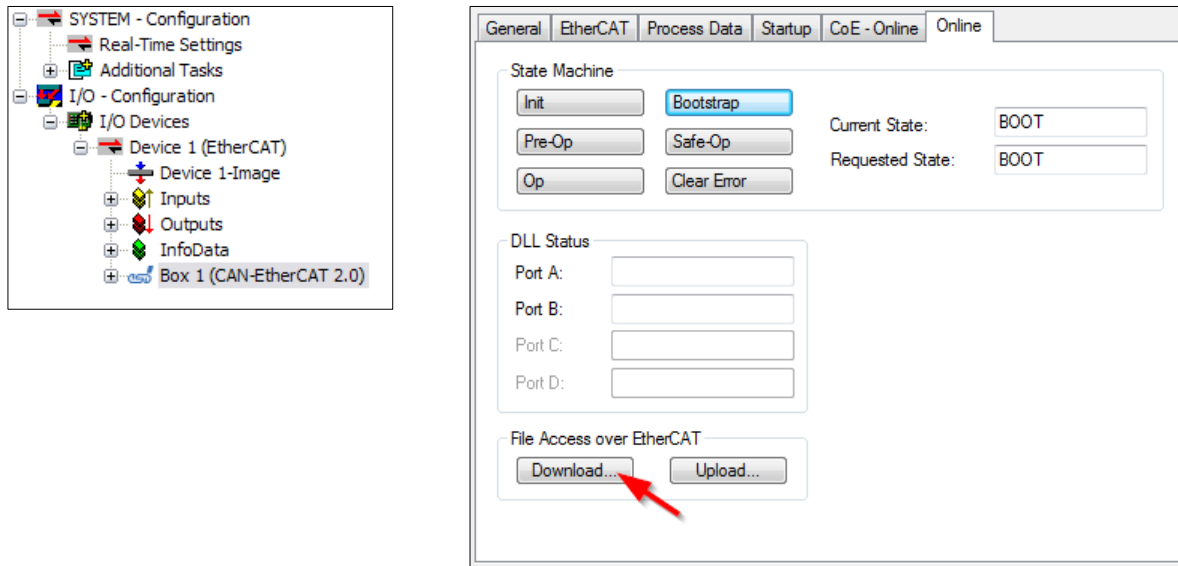

Figure 36: Firmware update by FoE
2. Set SubDevice to “Bootstrap”, by button *Bootstrap* (Figure 36)